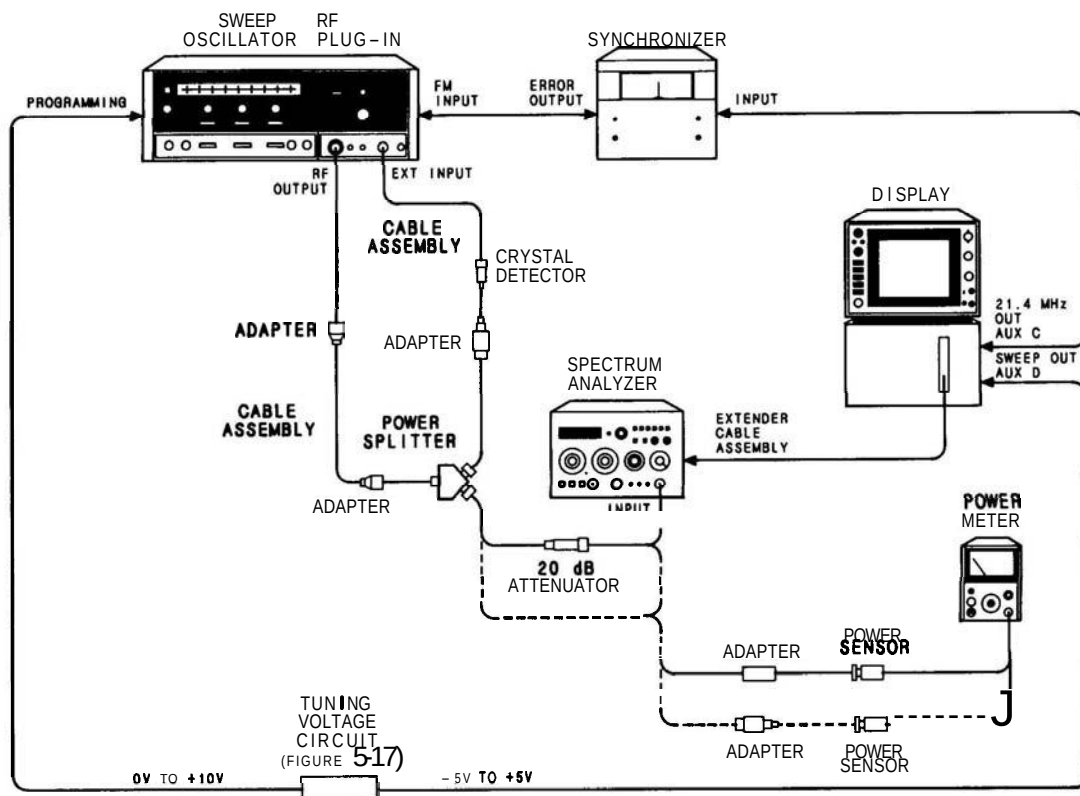

FIGURE 5-16. FREQUENCY RESPONSE ADJUSTMENT TEST SETUP
2. Connect equipment as shown in Figure 5-16 with power meter/power sensor connected to 20 dB attenuator and HP 8622A/B (.01 – 2.4 GHz plug-in) installed in sweep oscillator mainframe.
8. Disconnect power meter/power sensor and connect 20 dB attenuator directly to analyzer RF INPUT as shown in Figure 5-16.
21. Install HP 86290B (2 – 18.6 GHz plug-in) or HP 86290B-H08 (2 – 22 GHz plug-in), if available, in sweep oscillator mainframe and disconnect cables as shown in Figure 5-16 with 20 dB attenuator connected to analyzer RF INPUT.